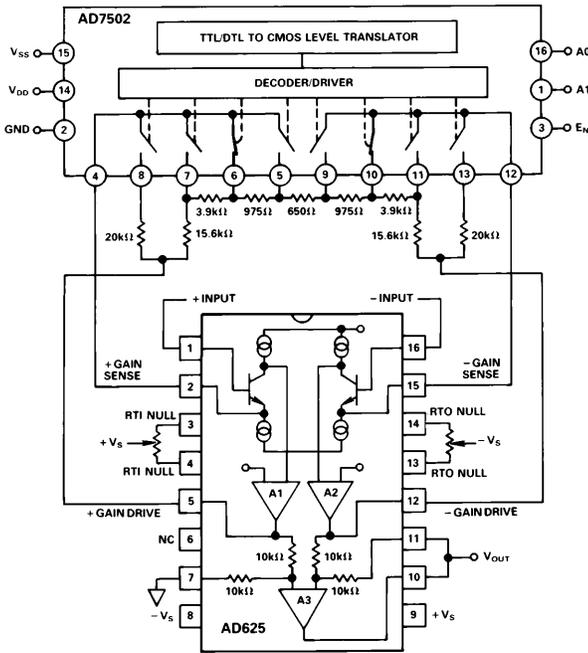
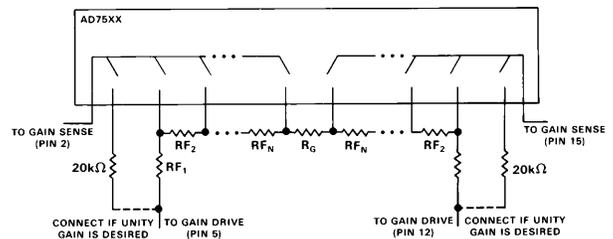

Figure 38. SPGA in a Gain of 16
Figure 41. Resistors for a Gain Setting Network
Figure 38 shows an AD625 based SPGA with possible gains of 1, 4, 16, 64. R_G equals the resistance between the gain sense lines (Pins 2 and 15) of the AD625. In Figure 38, R_G equals the sum of the two 975 Ω resistors and the 650 Ω resistor, or 2600 Ω. R_F equals the resistance between the gain sense and the gain drive pins (Pins 12 and 15, or Pins 2 and 5), that is R_F equals the 15.6 kΩ resistor plus the 3.9 kΩ resistor, or 19.5 kΩ. The gain, therefore equals:
The individual resistors in the gain network can be calculated sequentially using the formula given below. The equation determines the resistors as labeled in Figure 41. The feedback resistors and the gain setting resistors are interactive, therefore; the formula must be a series where the present term is dependent on the preceding term(s). The formula
can be used to calculate the necessary feedback resistors for any set of gains. This formula yields a network with a total resistance of 40 kΩ. A dummy variable (j) serves as a counter to keep a running total of the preceding feedback resistors. To illustrate how the formula can be applied, an example similar to the calculation used for the resistor network in Figure 38 is examined below.
- 1) Unity gain is treated as a separate case. It is implemented with separate 20 kΩ feedback resistors as shown in Figure 41. It is then ignored in further calculations.
- 2) Before making any calculations it is advised to draw a resistor network similar to the network in Figure 41. The network will have (2 × M) + 1 resistors, where M = number of gains. For Figure 38 M = 3 (4, 16, 64), therefore, the resistor string will have 7 resistors (plus the two 20 kΩ “side” resistors for unity gain).
- 5) If different resistor values are desired, all the resistors in the network can be scaled by some convenient factor. However, raising the impedance will increase the RTO errors, lowering the total network resistance below 20 kΩ can result in amplifier instability. More information on this phenomenon is given in the RPGA section of the data sheet. The scale factor will not affect the unity gain feedback resistors. The resistor network in Figure 38 has a scaling factor of $650/625 = 1.04$, if this factor is used on R_{F_1} , R_{F_2} , R_{F_3} , and R_G , then the resistor values will match exactly.